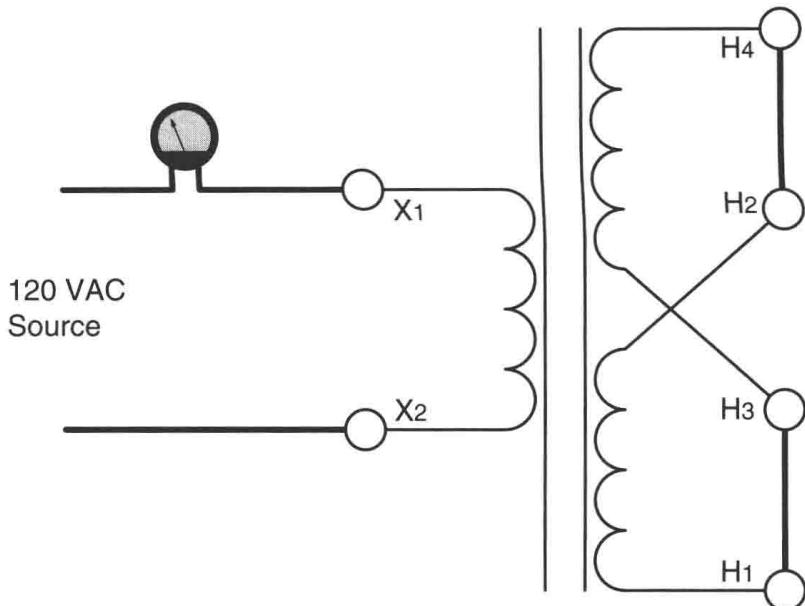

Figure 20-5 Using the low-voltage winding as the primary.
20. Reconnect the transformer by connecting the low-voltage terminals, $X_1 - X_2$, to a 120 volt AC source. Connect an AC voltmeter in series with one of the power lines, as shown in Figure 20-5.